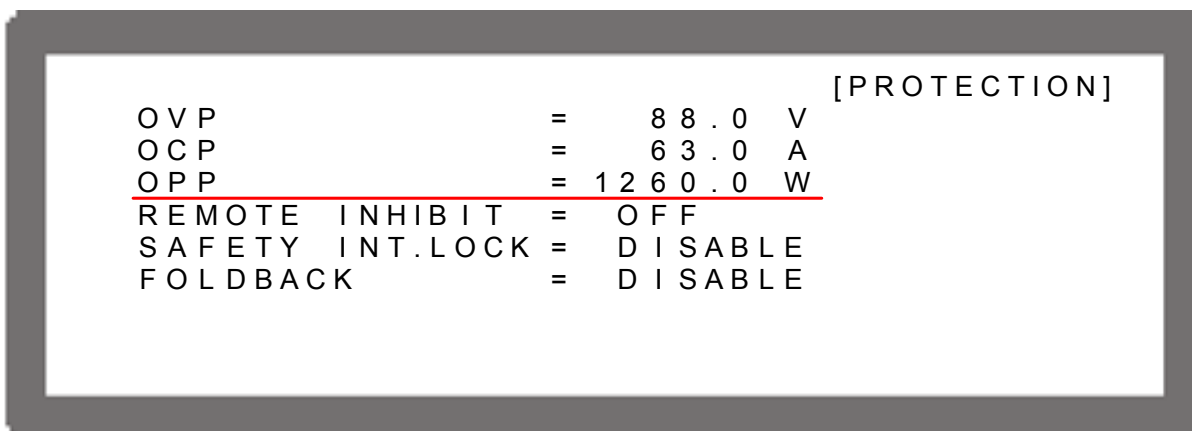

Figure 3-79
1. Use “”, “”, “”, “” keys to move the cursor to the column to be set as Figure 3-79 shows.